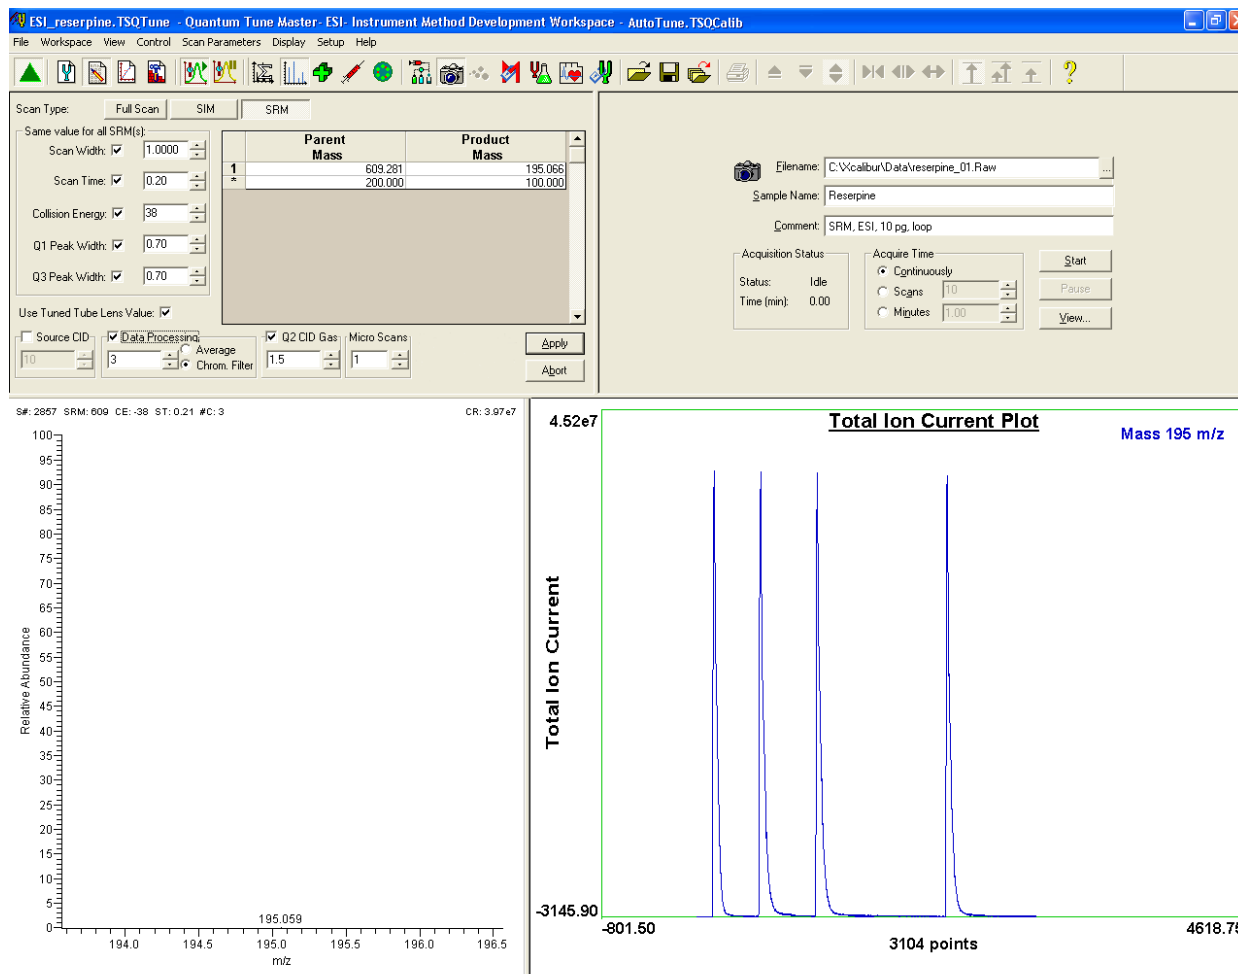

Figure 5-9. Instrument Method Development workspace, showing an SRM scan acquisition
15. Click on **Stop** in the Acquire Data dialog box to end the data acquisition. See Figure 5-9.